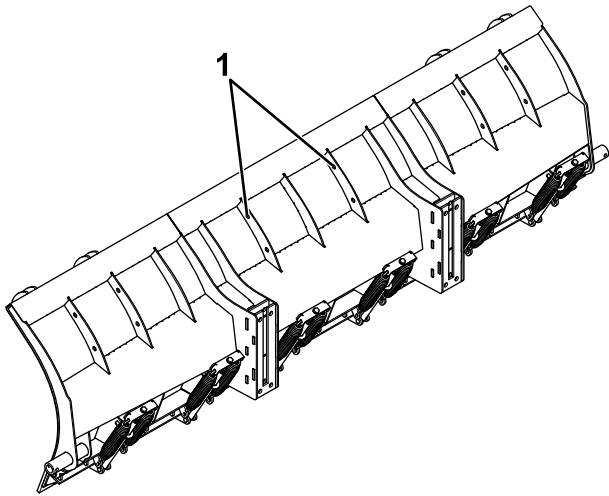

Figure 3
1. Using the lift points, stand the plow upright (Figure 3).